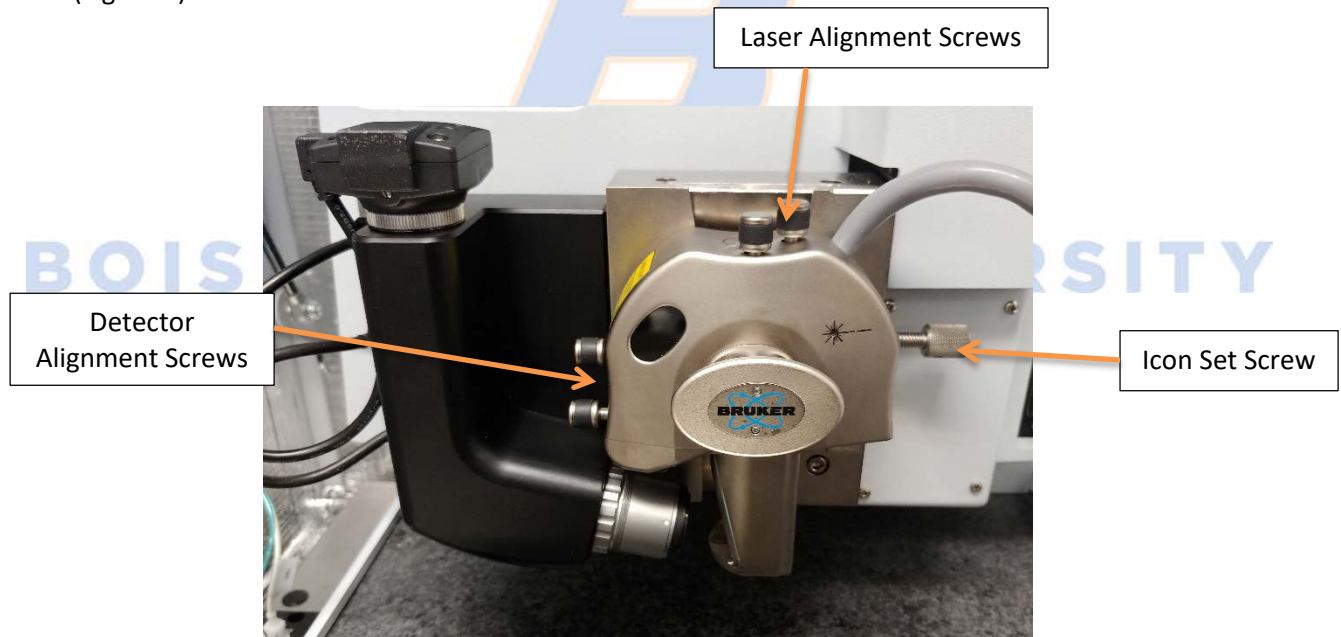
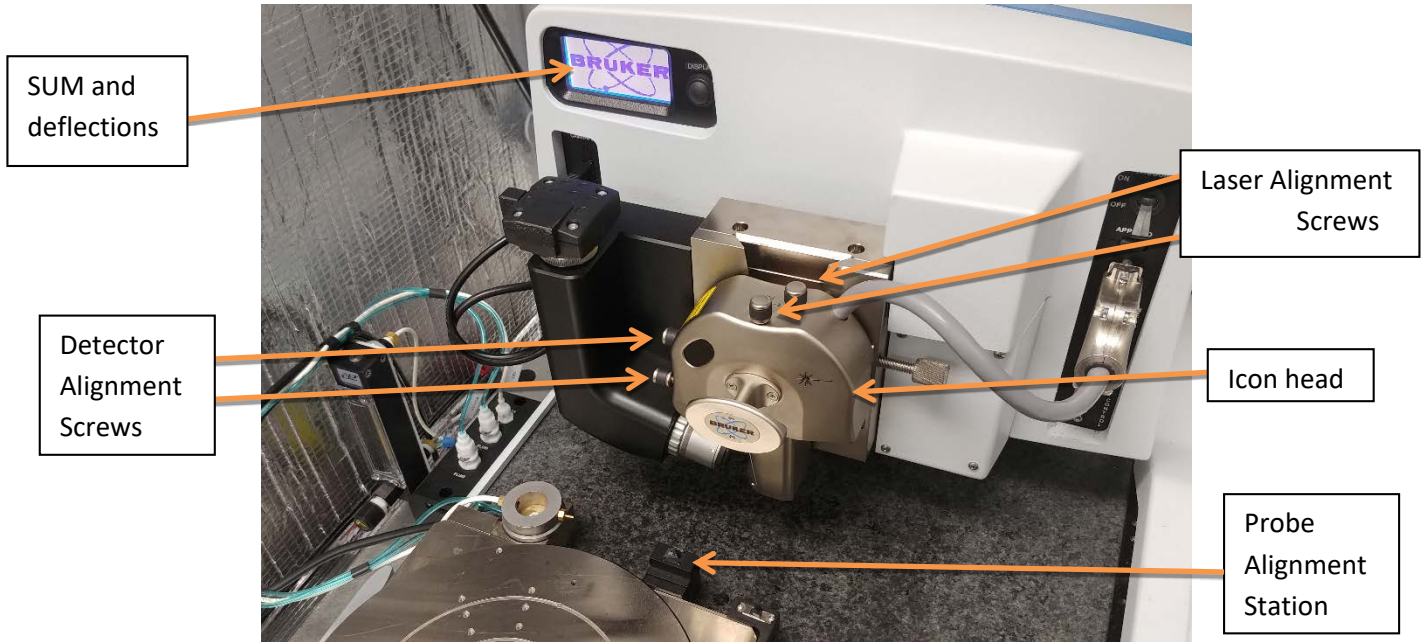
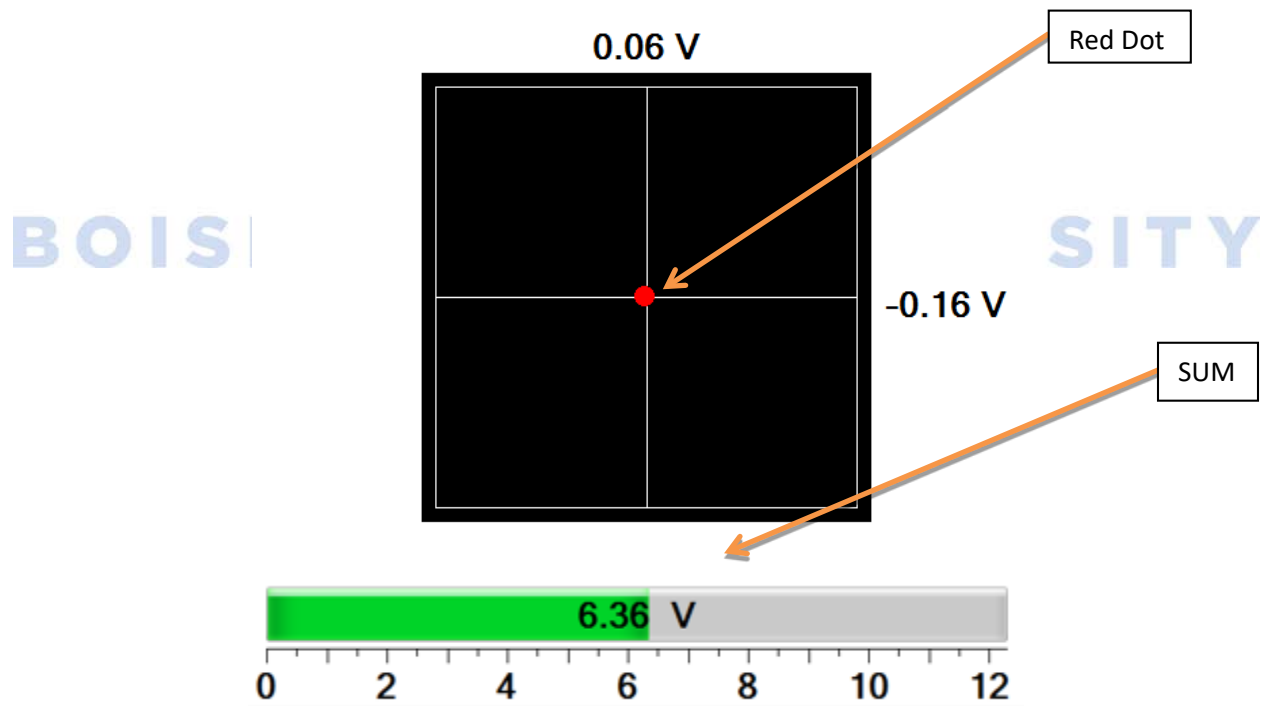

Figure 5. Icon AFM head showing the location of the different screws.
Figure 7. Alignment of the laser onto the probe cantilever.
Figure 8. Position sensitive photodiode display window showing beam location and signal strength (SUM and Displacement).
- 6) Unlock the AFM head from the dovetail rail by turning the set screw's knurled knob counterclockwise (Figure 5).
- 8) After the probe holder has been installed, gently slide the Icon head back onto the dovetail holder using the attached handle and tighten the set screw. If the stage has not already been moved, use the Navigate window in the Nanoscope software to move the stage away from the Icon head (as shown in Figure 7).
- a) Press the display button above the Icon optics to show the SUM and vertical (VERT) and horizontal (HORIZ) deflection (Figure 7).
- b) Use the *Laser Alignment Screws* (Figure 7) to adjust the laser until the cantilever is detected (red beam will appear split on the paper and SUM will increase drastically).
- ii) Repeat this process moving forward off the tip of the laser and backward until the sum drops off again. The SUM should be at its maximum when the laser is properly centered (Figure 8).
- 10) Adjust the red dot (Figure 8) using the *Detector Alignment Screws* (Figure 5 and Figure 7) until the vertical and horizontal deflections are approximately zero (± 0.05 V).